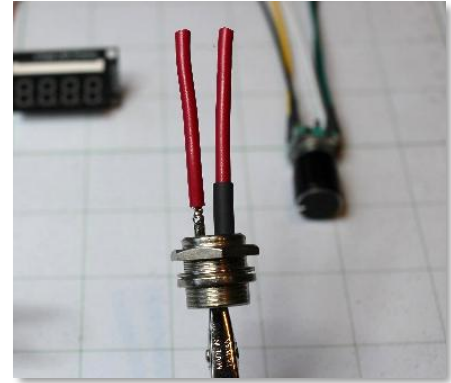

Figure 7
For the GX-16, we recommend that you use a larger gauge wire such as 14 AWG. So, cut (2) 2-inch 14 AWG wires. Depending on the connector you're using, you may need to remove a few strands at the end of your wires to obtain a better fit. When you're happy with the way the wires and connector terminals fit, pre-soldering both the connector and wire ends will make it easier to solder these larger wires. You'll also need to add some protective shrink tubing on these wires as well as shown in figure 7.